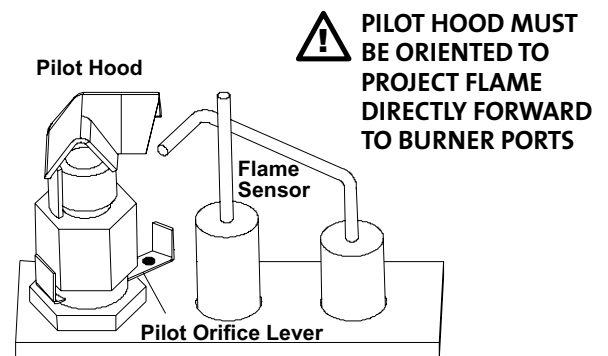

Figure 7.7. Pilot Conversion to Propane.
6. **CHANGE THE INTEGRATED DUAL-FUEL PILOT ORIFICE:** Use the 7/16" wrench to just loosen the pilot head enough to push in the orifice lever. See fig. 7.7.